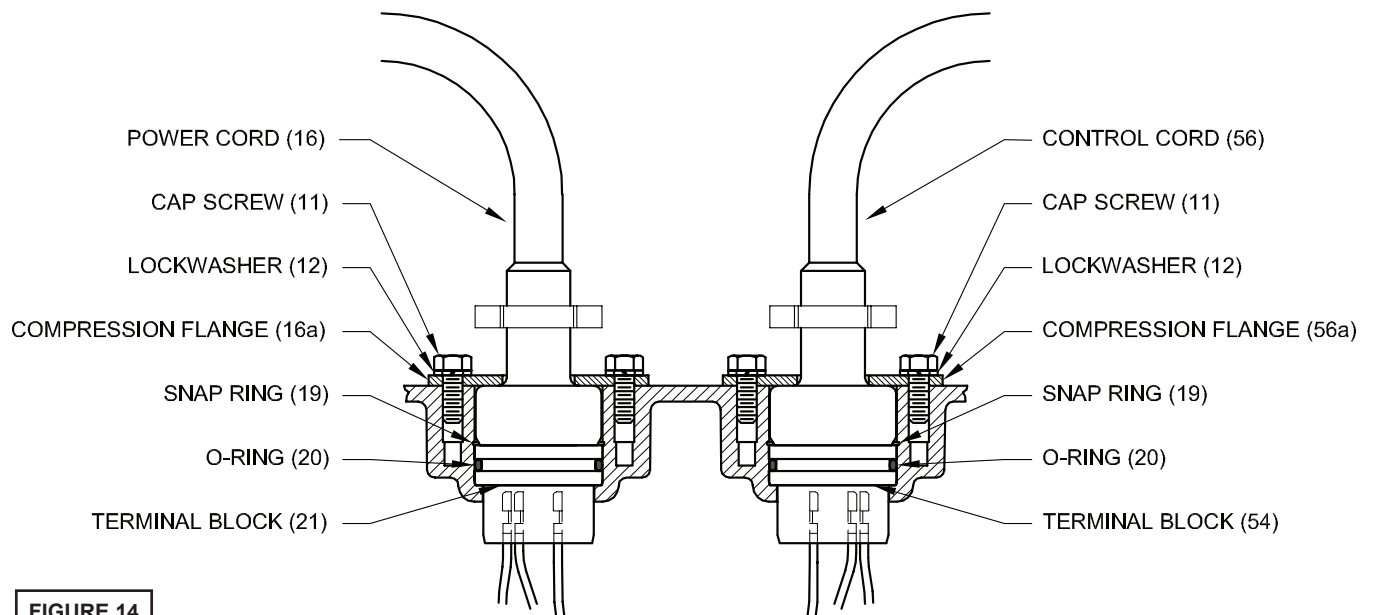

FIGURE 14
Check power cables (16) and control cable (56, if used), for cracks or damage and replace if required (see Figure 14). Make internal wiring connections which are independent of the terminal block as shown, using connectors (48) and wire assemblies (49) and (63) as required. Do not use wire nuts. Slip motor leads and ground wire through fiberglass sleeve. Lower motor housing (6) down onto seal plate (5) while aligning holes and stringing motor leads through the cable entry bore(s). (Slipping cords inside a 1 ft. length of .5" conduit makes this easier). Place socket head cap screws (47) through seal plate (5) into motor housing (6) and torque to 60 in-lbs.